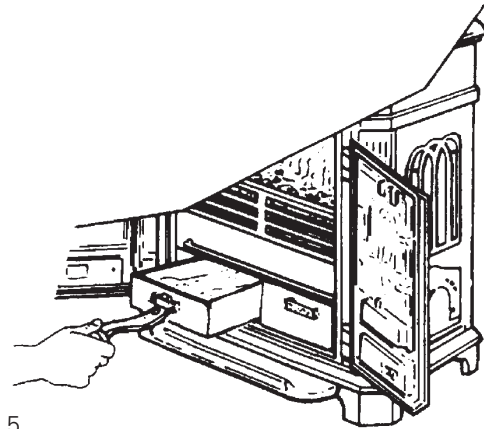

Fig. 5
- c. Remove either the ashpan with the operating tool. See Fig. 5